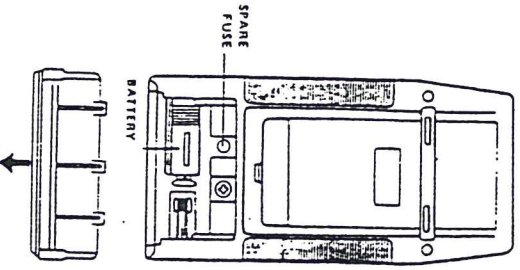

Fig. 3
- (1) When the left corner of LCD display show "LO BAT", it is necessary to replace the battery. However in-spec. measurements may still be made for several hours after the "LO BAT" appears before the instrument becomes inaccurate.
- (2) Slide the battery cover (fig. 3), away from the instrument and remove the battery.
- (3) Replace with 9 V battery (006V DC 9V) and reinstall the cover.